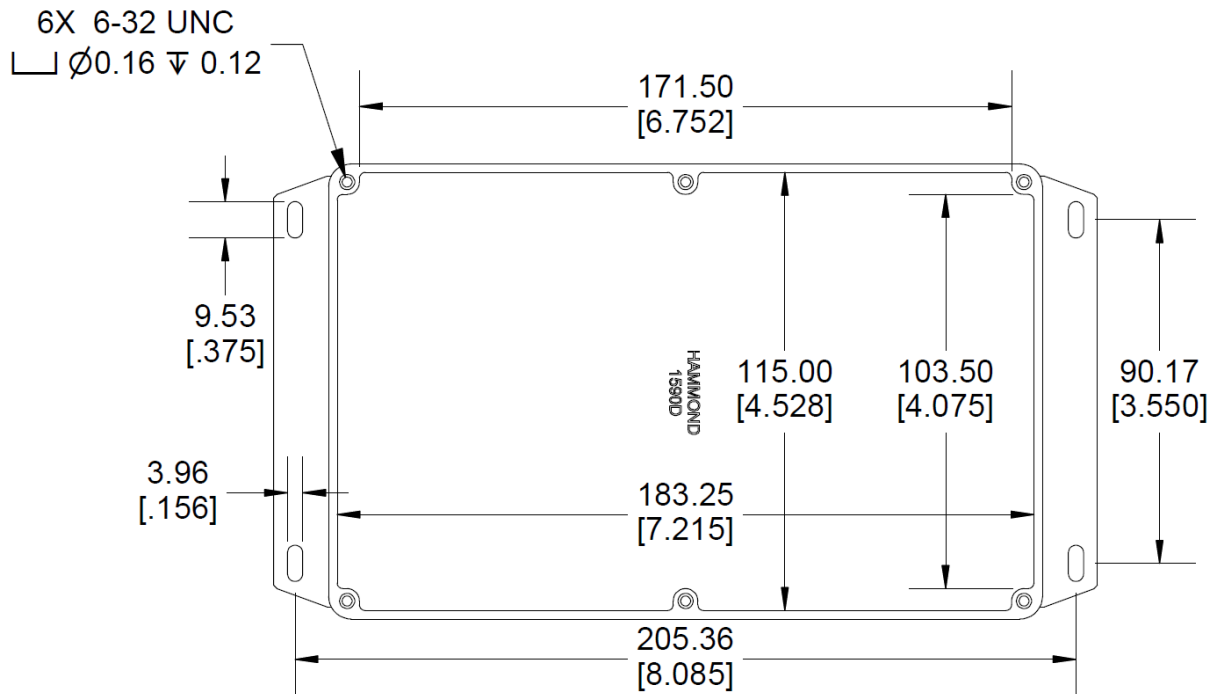

Figure 7 – Mounting Hole Locations (not drawn to scale)
2. Use the drawing shown in Figure 7 to locate the four mounting holes and drill or punch the mounting holes. For further details see <https://www.hammpfg.com/part/1590DF>.